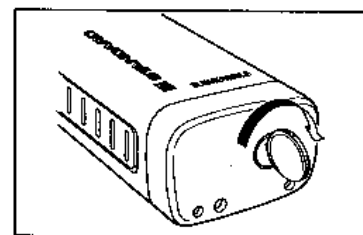

Figure 4. Installing the battery
3. To install, slide the battery pack into the battery cavity until fully inserted, and turn the battery lock screw clockwise until hand-tightened. (see figure 4)